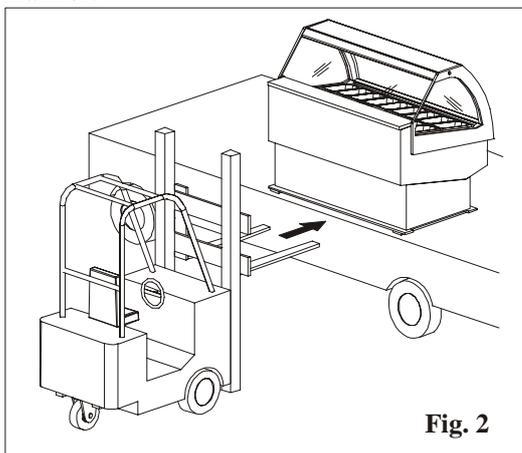

Fig. 2
- Ensure that the cabinet is perfectly balanced on the forks before lifting it (fig.2).